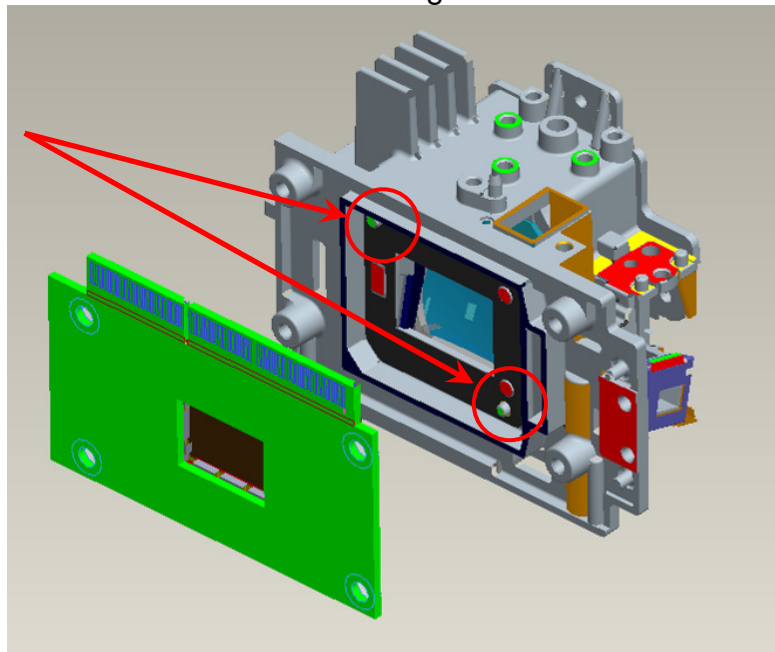
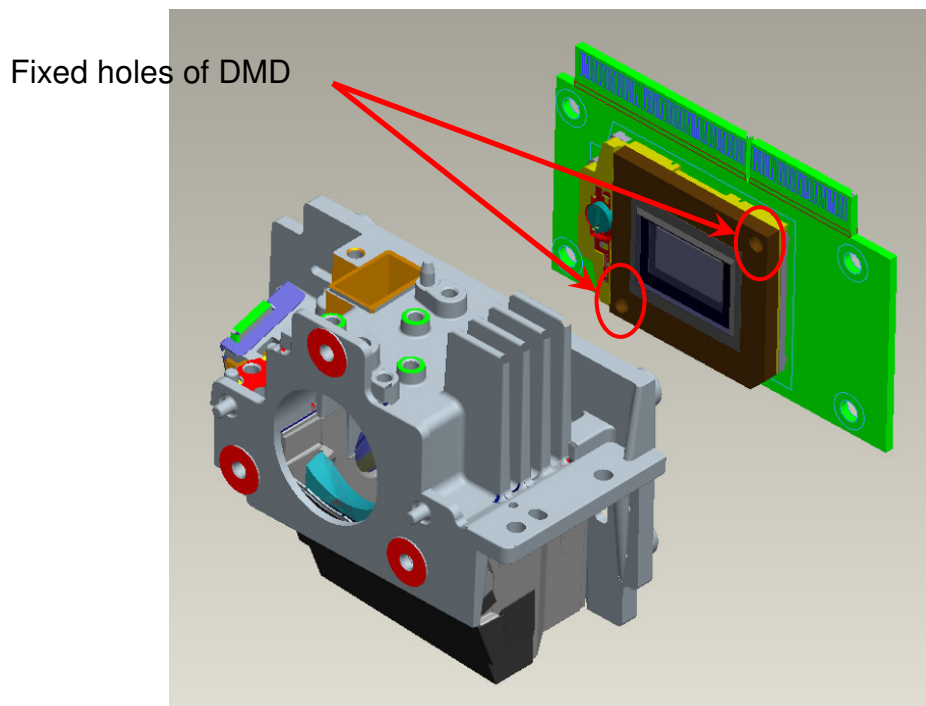

Fig.7-4
Fig.7-5
- (2) Assemble Chip B/D Module to "HSG DMD" (Fig. 7-4, Fig. 7-5).